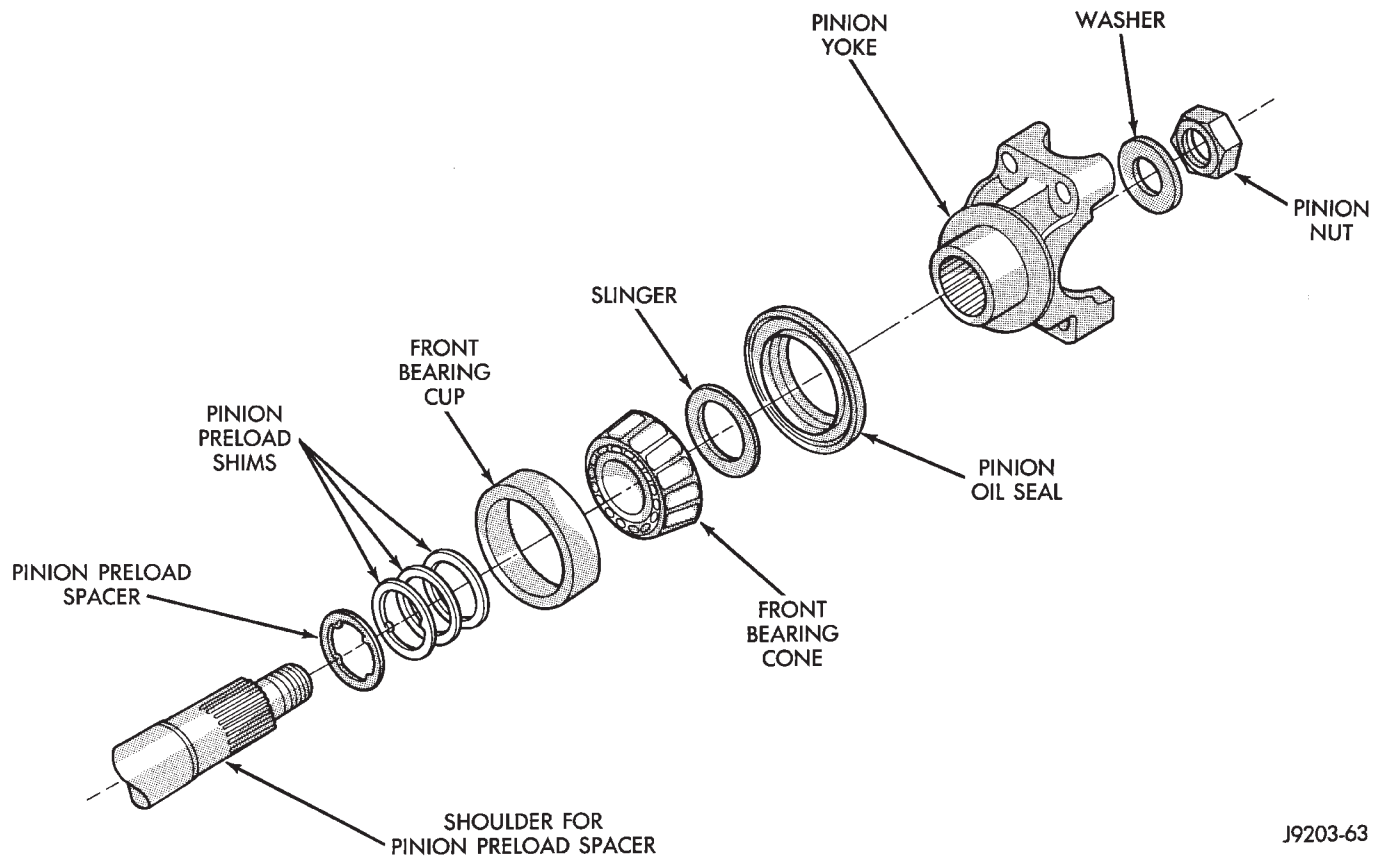

Fig. 37 Pinion Preload Shims-Typical
(7) Install pinion bearing preload shims onto the pinion gear (Fig. 37).